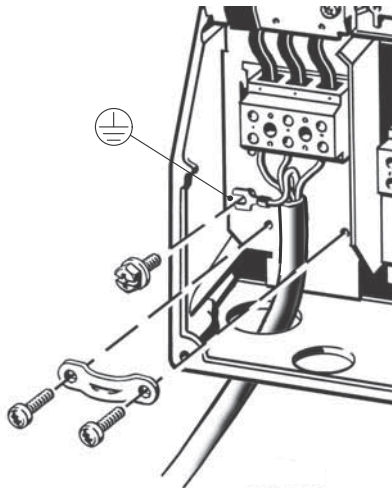

Fig. 158 Mains connection, B2
1. Connect the earth conductor to terminal 95 (PE). See fig. 158.